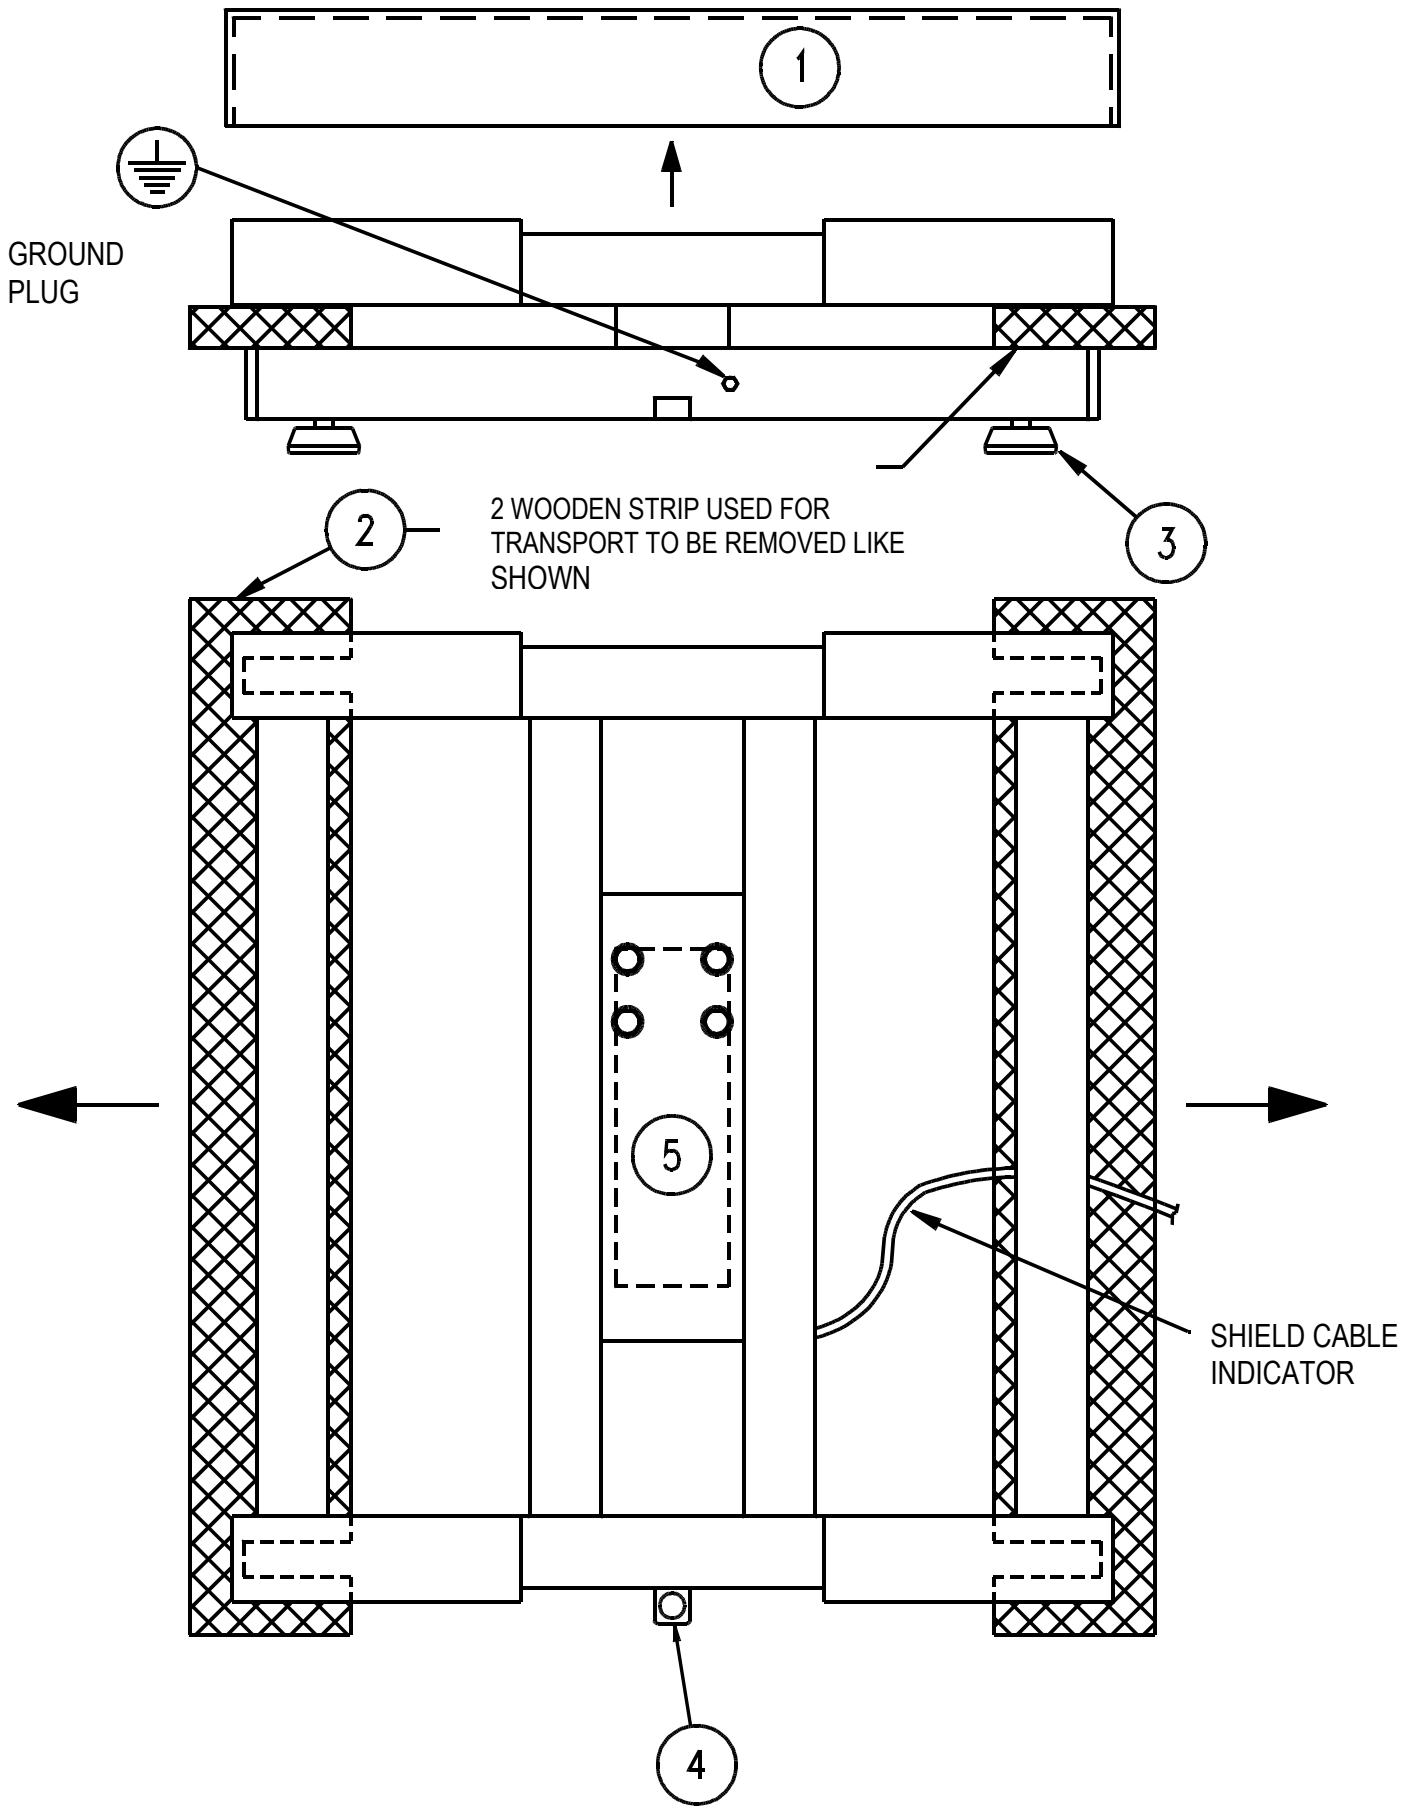
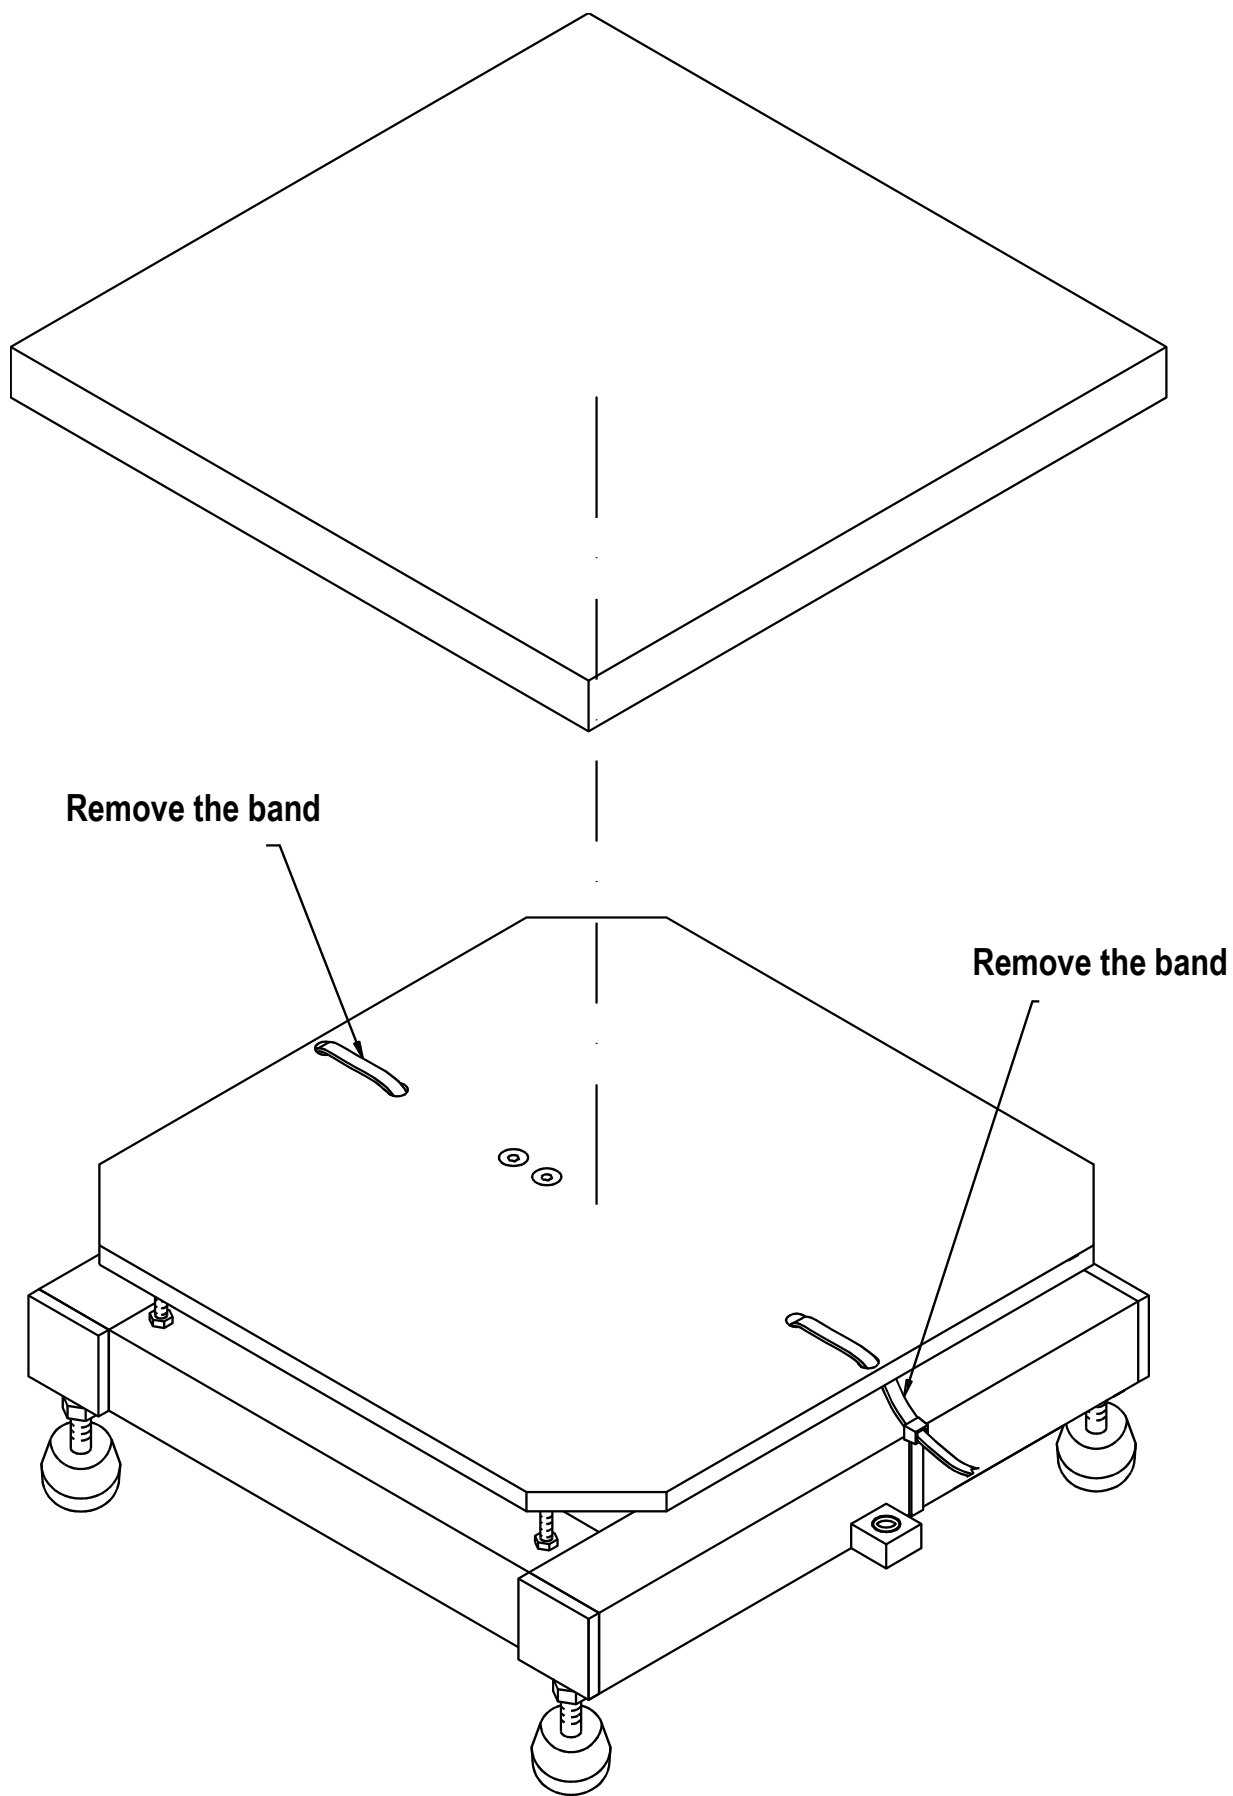

Fig.1
Fig.2
Refer to **Figure 1**, **Figure 2** and **Figure 3**.
- c) Take off the bands which keep fixed the underplate (see fig.2 and fig.3)
- d) **Level the platform** by adjusting the adjustable feet (3) until the bubble (4) is in the centre of the level.